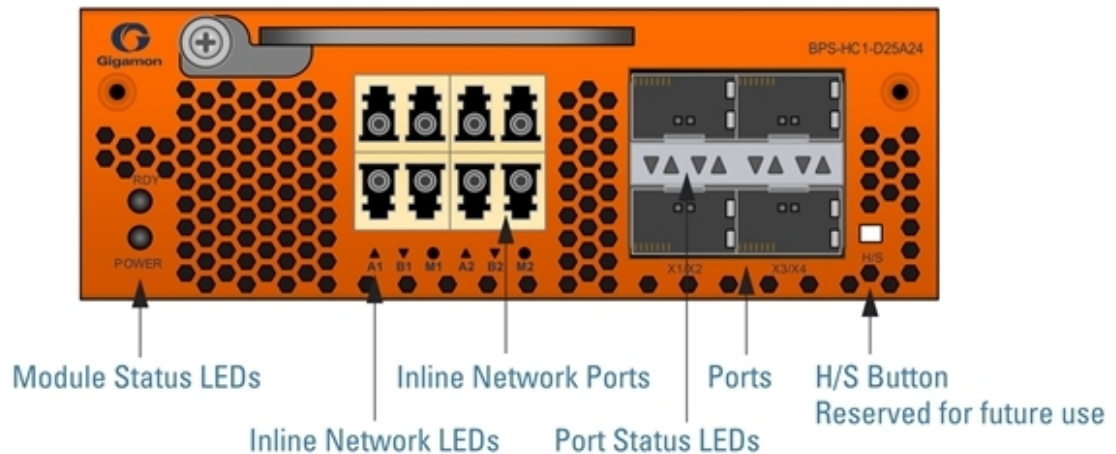

Figure 4 Bypass Combo Module BPS-HC1-D25A24
- Bypass Combo Module with two SX/SR (50/125µm multimode) inline network port pairs and four regular SFP+ port cages (BPS-HC1-D25A24) (Figure 4 Bypass Combo Module BPS-HC1-D25A24)